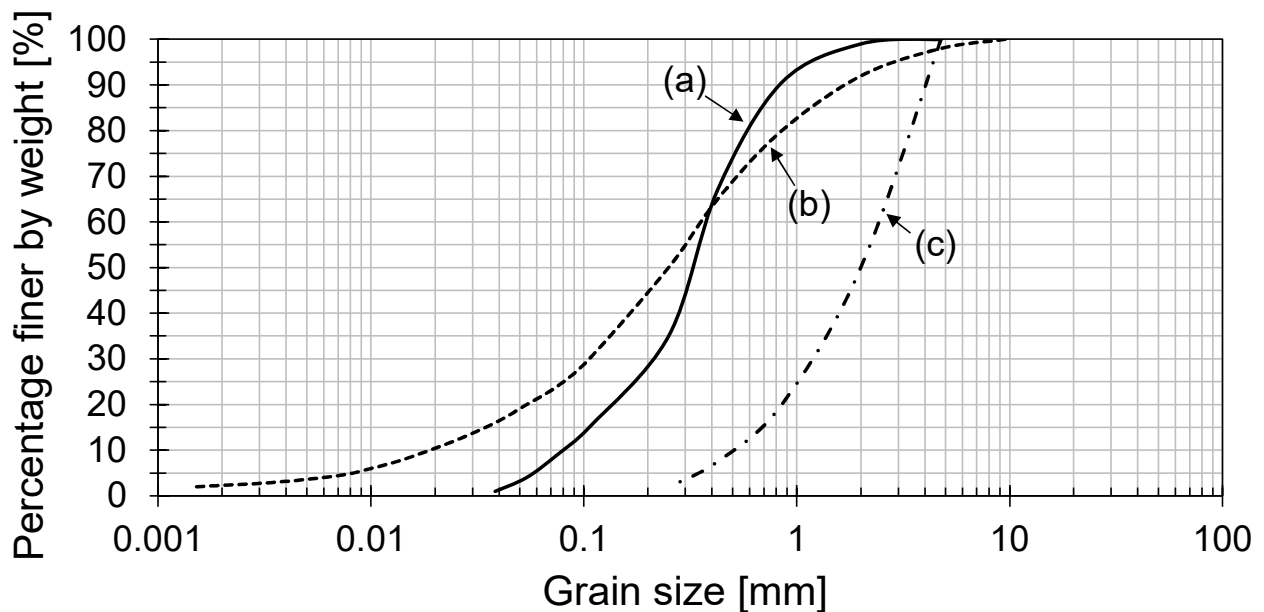

Figure 2-3
- 2) Given that the daily leakage rate per unit depth (perpendicular to the page) from the inner side of the dam was measured to be 0.58 m^3 and the coefficient of permeability of the soil can be approximated by Hazen's formula $k = 70D^2$ [cm/s] (D : effective grain diameter [cm]), calculate the effective grain diameter of the fill material constituting the earth dam. Then, based on this, determine which of the grain size distribution curves (a), (b), or (c) in Figure 2-3 is expected to represent the fill material. Note that the reference plane for elevation head is the top surface of the impermeable layer, and the total (piezometric) head is assumed to be zero along the boundary between the fill and the drainage system.